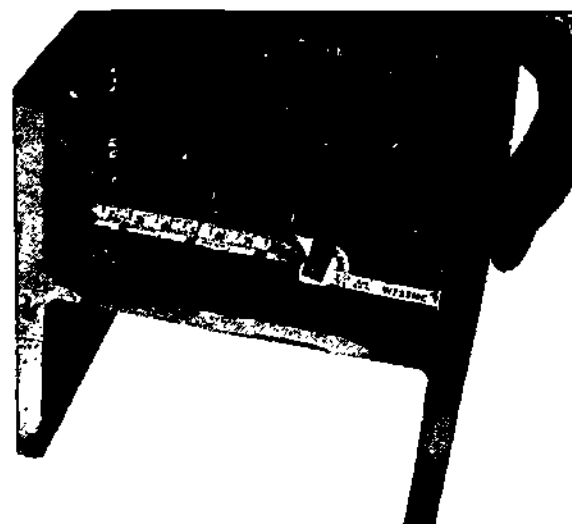

Figure 2-31. Measuring Inside Length with a Tape
**Measuring Inside Length** Most square tape cases are 2" long, so this 2" must be added to the length showing on the tape (Figure 2-31).